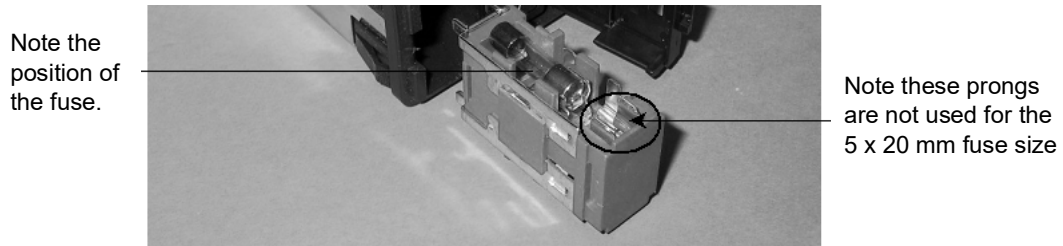

Figure 65: The Sievers Autosampler Fuse Housing
5. Insert the new fuse(s). Ensure that the fuse is positioned toward the end and makes contact with the metal tab (extending up from inside the housing). Reference Figure 65 as needed.